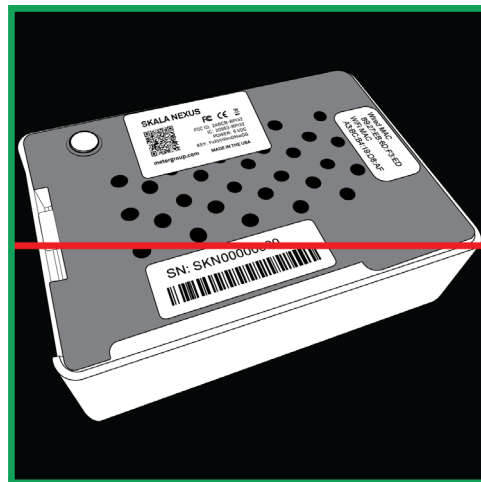

Figure 16 NEXUS in camera window
6. Place the QR code in front of the camera window and inside the green box (Figure 16).